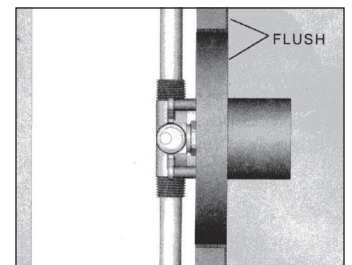

Figure 2
2. The depth of rough-in should account for thickness of wall materials to be used (combined thickness of wall board and finished wall material). Face of guard should be positioned to be flush with finished wall surface (see **Figure 2**).